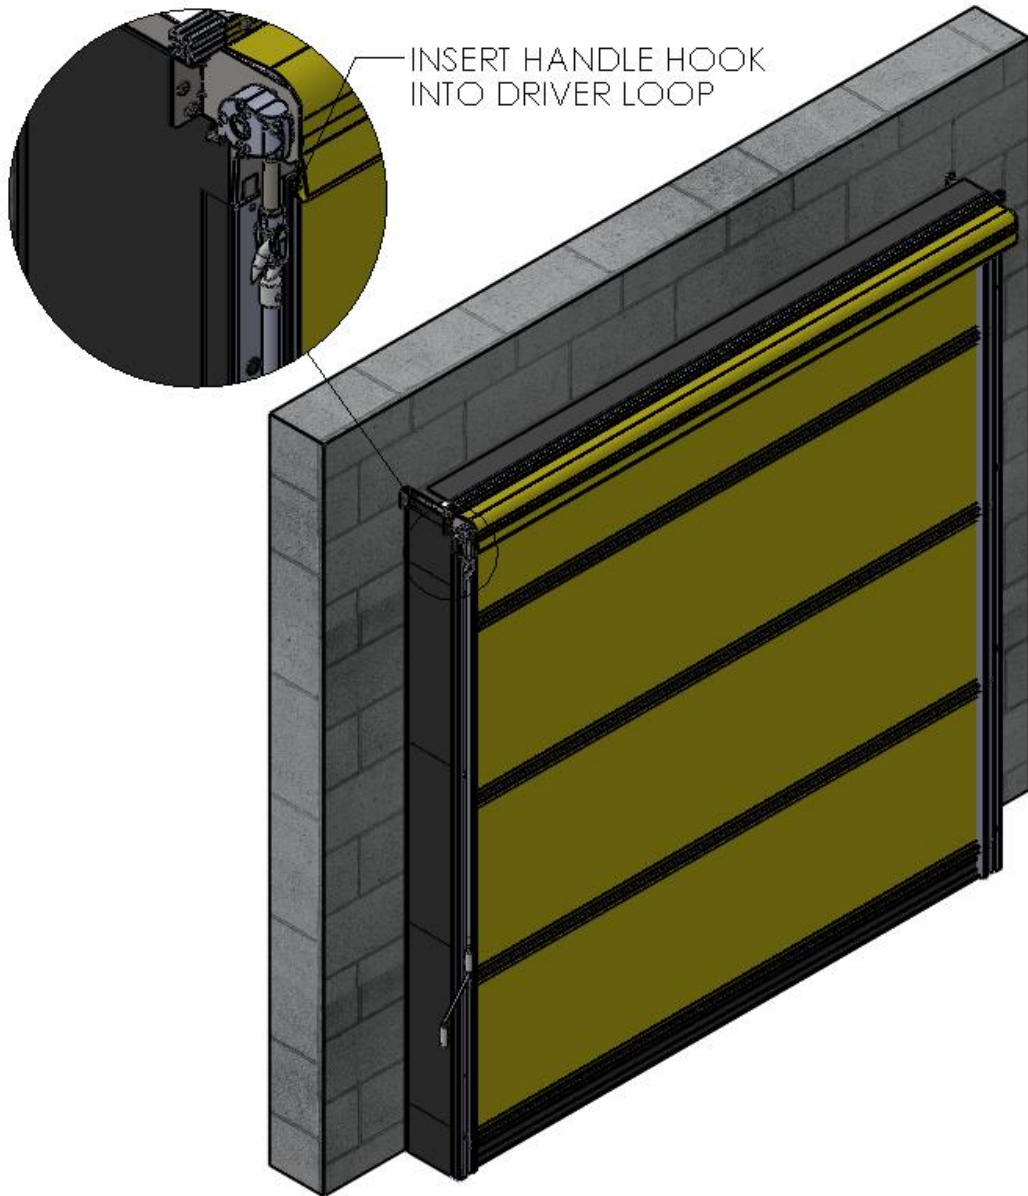

Figure 6 INSTALL CRANK HANDLE
3. Insert the handle's hook into the loop of the Driver Assembly. (Figure 6 INSTALL CRANK HANDLE)